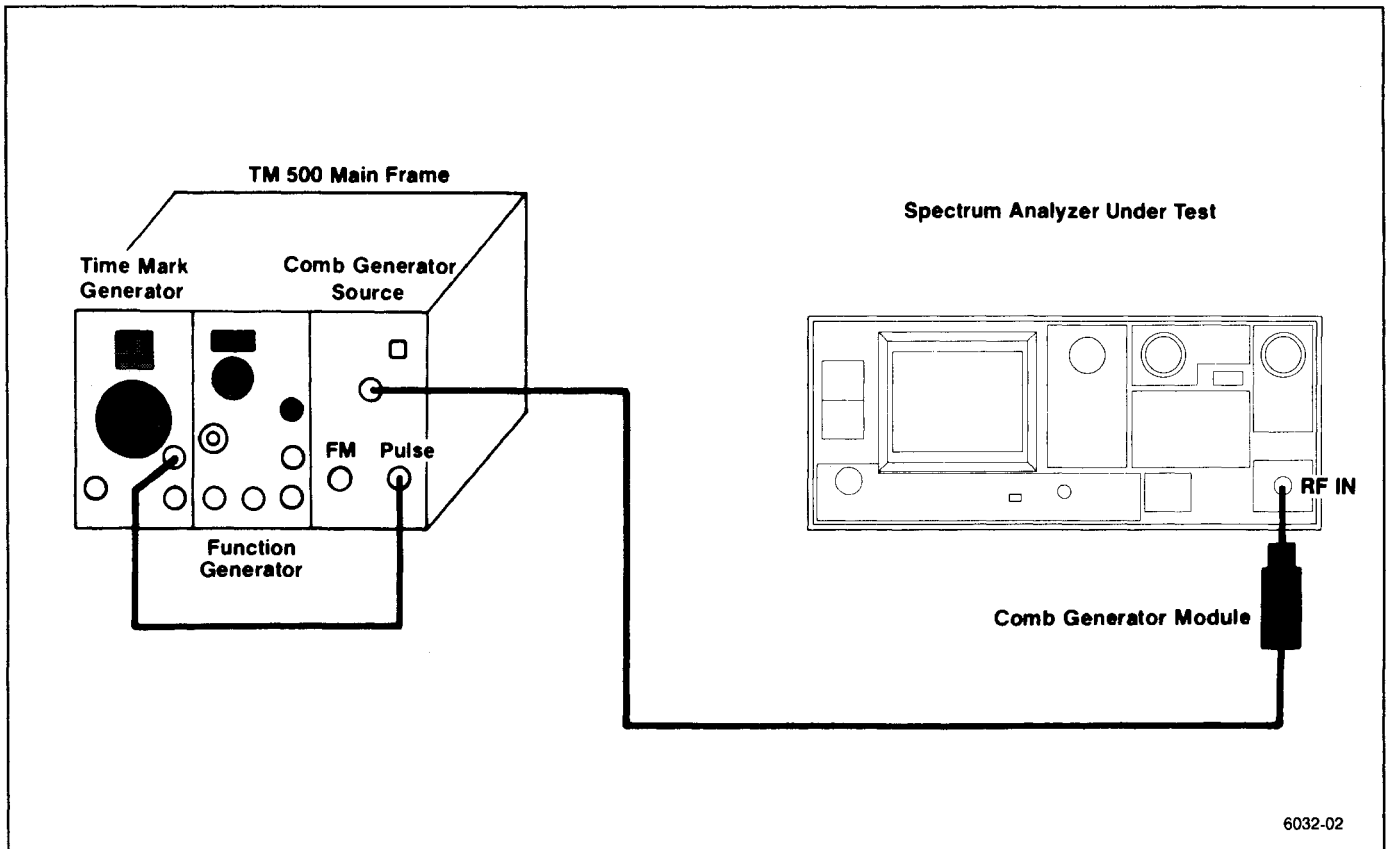

Figure 4-6. Test equipment setup for checking frequency Span/Div and sweep Time/Div accuracy.
c. Remove the CAL OUT signal from the RF INPUT and set up the test equipment as shown in Figure 4-6. Set the FREQUENCY to 10 GHz, (band 4, 5.4 to 18 GHz) FREQ SPAN/DIV to 500 MHz, RESOLUTION BANDWIDTH to 100 kHz, and REF LEVEL to -10 dBm. Press <SHIFT> PEAK MENU and select item 3, then set REF LEVEL for the best marker definition. It may also help to reset the CENTER FREQUENCY for better marker definition.
f. Modulate the Comb Generator signal with 10 μ s markers, from the Time Mark Generator, by applying the Marker Output to the Pulse Input of the Comb Generator as shown in Figure 4-6. Press <SHIFT> PEAK MENU and select item 3.